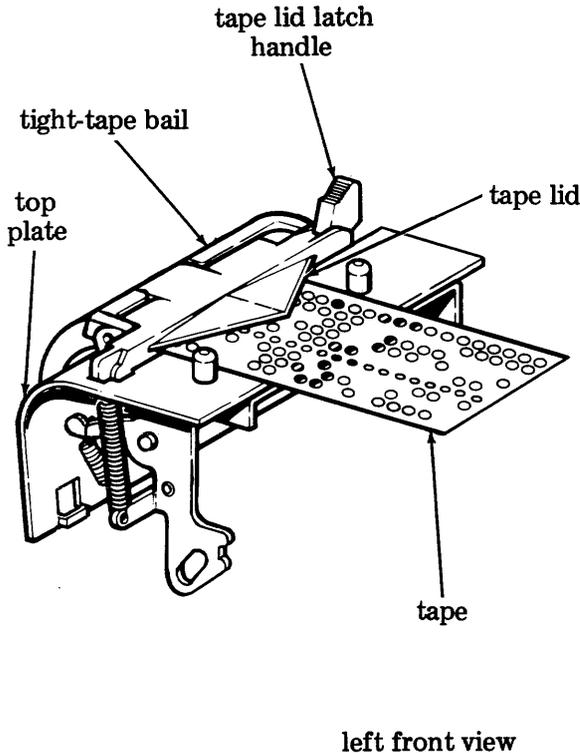

Figure 2 - Tape Lid Mechanism
3.05 When the tape lid latch handle is moved to the right, the spring-biased tape lid swings open. The two locating pins guide the tape as it travels across the top of the plate (Figure 2).